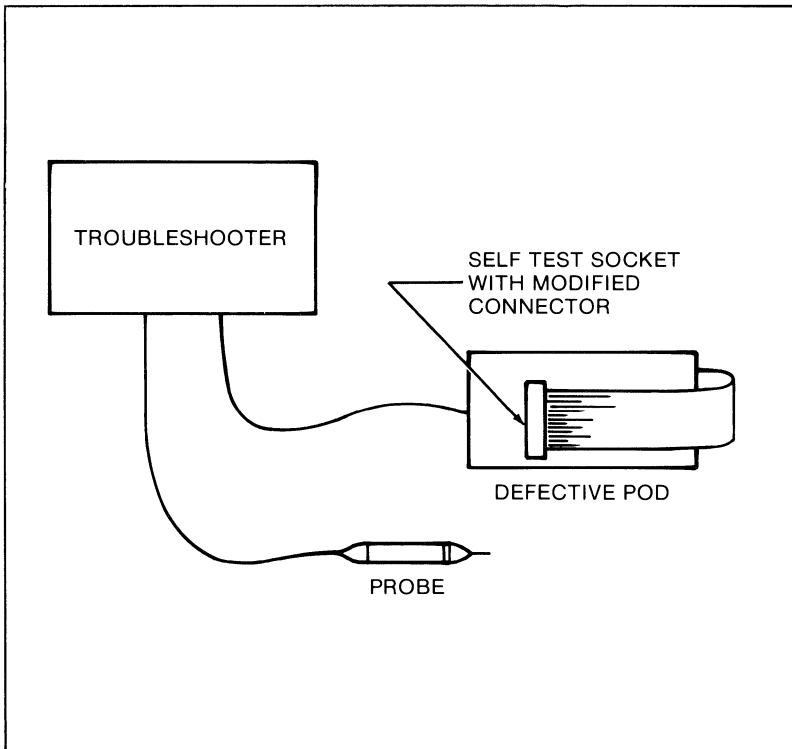

Figure 5-2. Troubleshooting a Defective Pod
2. Connect the pod to the troubleshooter, and the ribbon cable connector to the UUT, as shown in Figure 5-2. Note that the troubleshooter is connected by means of the shielded cable, and not by means of a second pod, to the microprocessor socket. Also, Figure 5-2 shows the self test socket as the UUT, although any suitable UUT may be used. (Refer to Selecting a UUT for Pod Testing.)